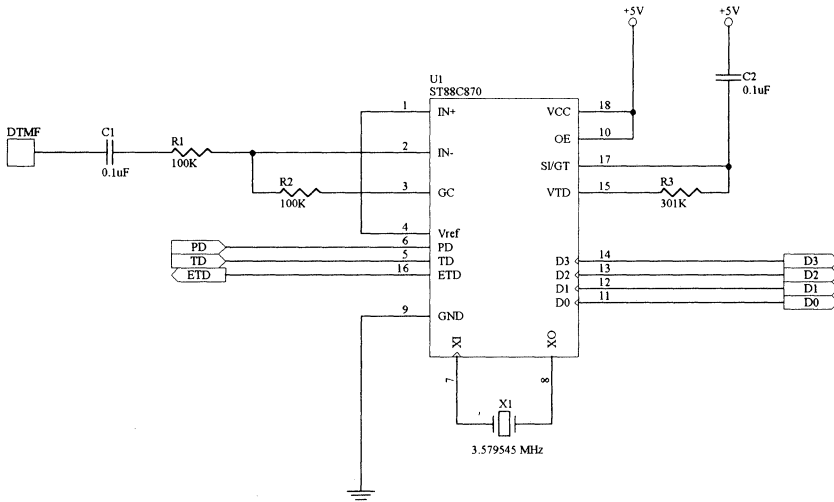

Figure 4.
The input arrangement of the ST88C870 provides a differential input operational amplifier as well as a bias source (Vref) which is used to bias the inputs at mid rail. Provision is made for connection of a feedback resistor to the op-amp output (GC) for adjustment of gain. In a single ended configuration, the input pins are connected as shown in Figure 4 with the op-amp connected for unity gain and Vref biasing the input at VCC/2.
The internal clock circuit is completed with the addition of an external 3.579545 MHz crystal and is normally connected as shown in Figure 4 (Single-Ended Input Configuration). However it is possible to configure several ST88C870 devices employing only